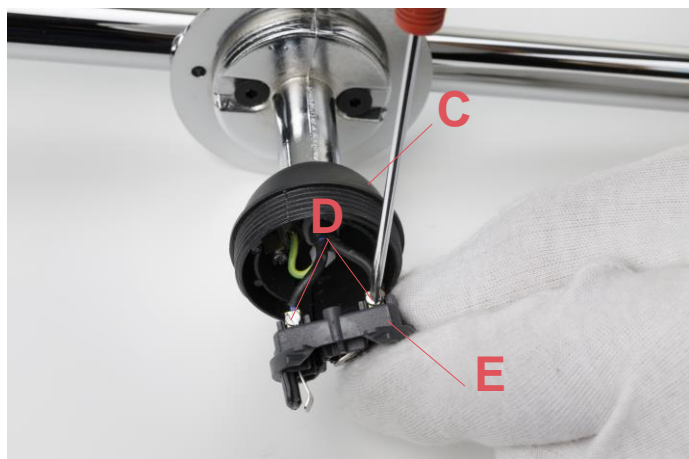

Fig.3
Connect the earth wire to the terminal (F) and then connect the electrical wires by respecting the polarities to the fitting (E) terminals (D). (Fig.3 page 15)